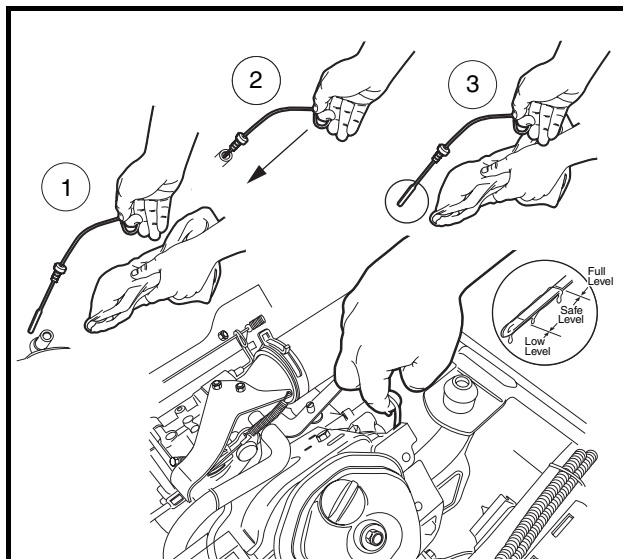
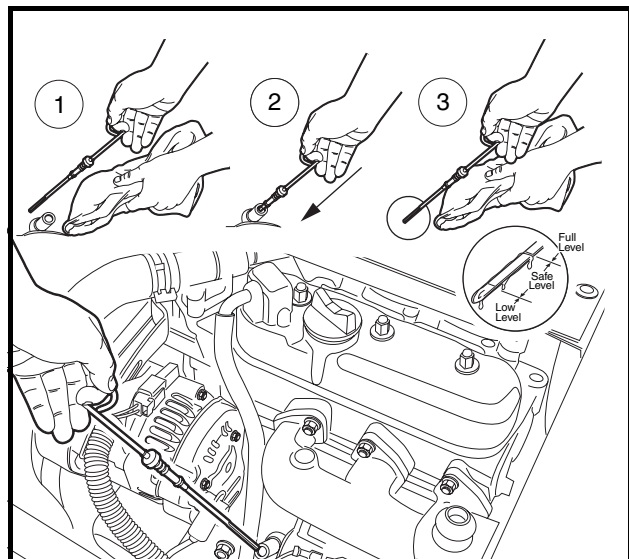

Figure 10-5 Engine Oil Level Check – Gasoline Vehicles
Figure 10-6 Engine Oil Level Check – Diesel Vehicles
1. Remove the oil level dipstick from the oil filler tube and wipe oil from the dipstick (**Figure 10-5, Page 10-7** or **Figure 10-6, Page 10-7**). **See following CAUTION.**